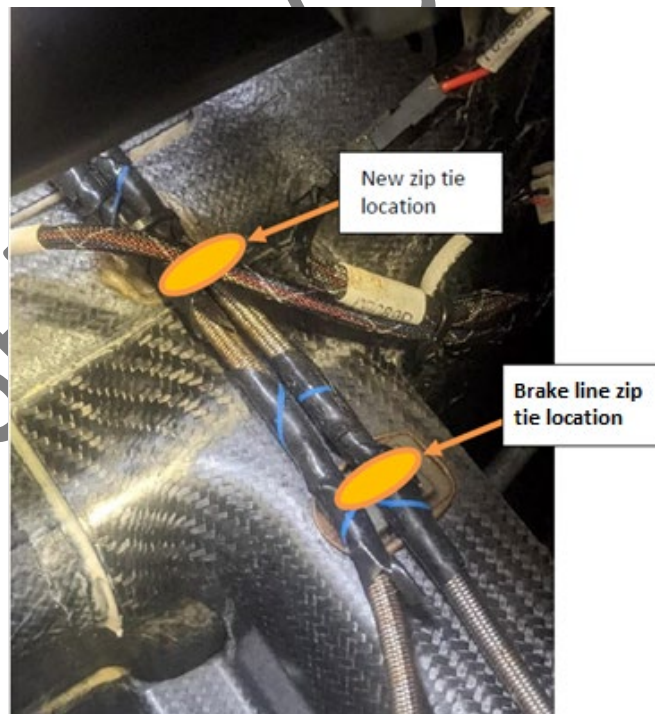

Figure 4. Zip- tie Locations
4. (1.0 config only) Remove zip- tie securing the wiring harness to the brake line (**Figure 4.**)
22. (1.0 config only) Secure brake line with 1 each zip-tie (TY23MX) at brake line zip-tie location. Secure harness with 1 each zip-tie (TY23MX) at harness location (See **Figure 4**). Reinstall the removed zip-tie that secures actuator connector.